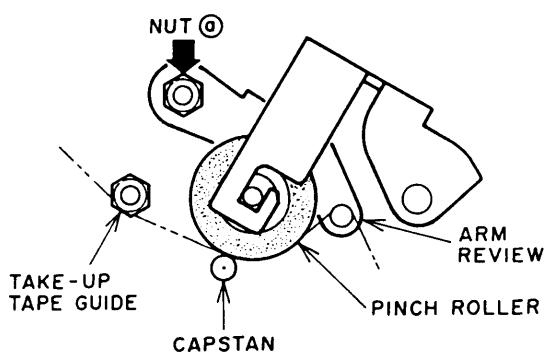
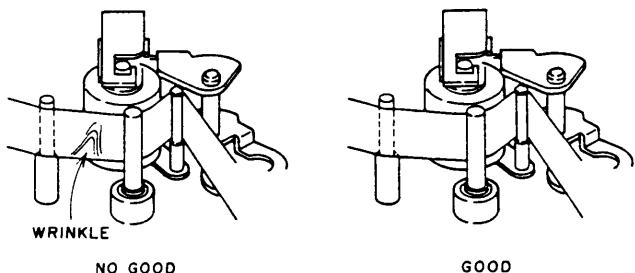

Fig. 5-6
Fig. 5-8
- 2) Turn the REVIEW ARM height nut **Ⓐ** so that the edge of the tape barely touches the lower part of the TAKE-UP TAPE GUIDE without any curl or wrinkle between the TAKE-UP TAPE GUIDE and the CAP-STAN SHAFT as shown in Fig.5-6 to Fig.5-8.